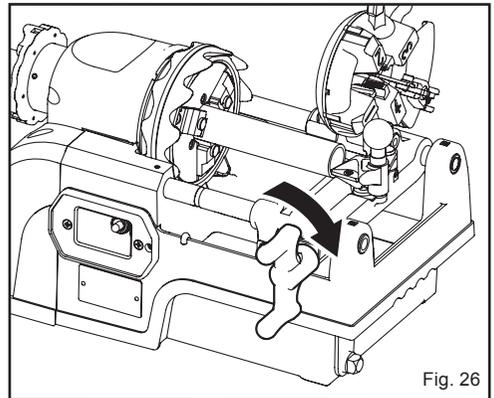

Fig. 26
- (3) Turn the machine on to start the pipe rotating. Then turn the carriage handle to the right to move the reamer forward to engage the pipe. Allow the pipe to rotate at least $\frac{1}{2}$ a turn, and then remove the reamer from the pipe. That completes the reaming process. (Fig. 26)